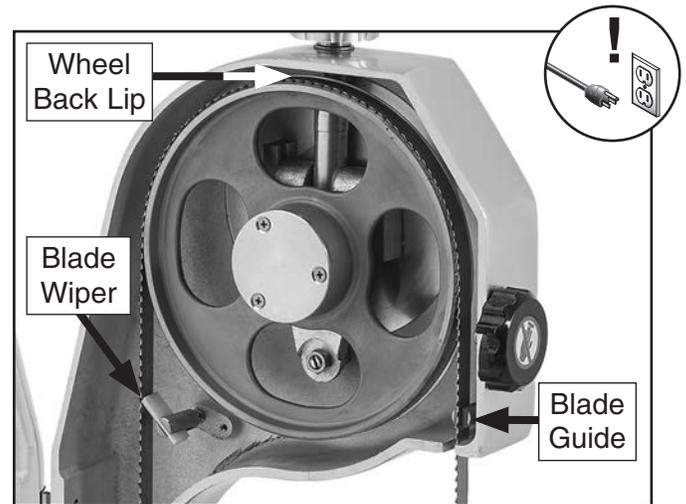

Figure 7. Top wheel blade guide and wiper.
4. Verify blade is centered in blade guide and rests against blade wipers, as shown in **Figures 7 & 8**.